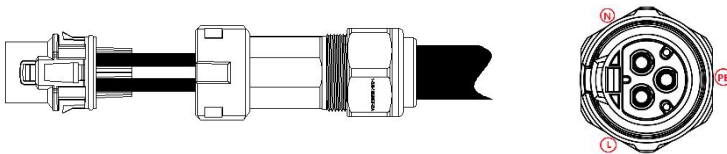

Fig 5.8 Crimp cable terminal
(1) According to Table 5-1, the three conductors of single-phase public power grid L, N and PE are correctly connected to the corresponding holes according to the identification, and ensure that the conductors are not exposed and crimped firmly, and finally tighten the waterproof cap, as shown in Fig 5.8;